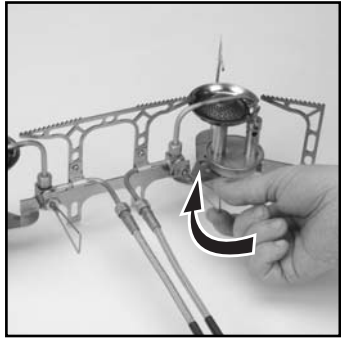

FIG. 29
- After the first burner exhibits a proper flame, turn the first flame adjuster to "LOW" (Fig. 29).